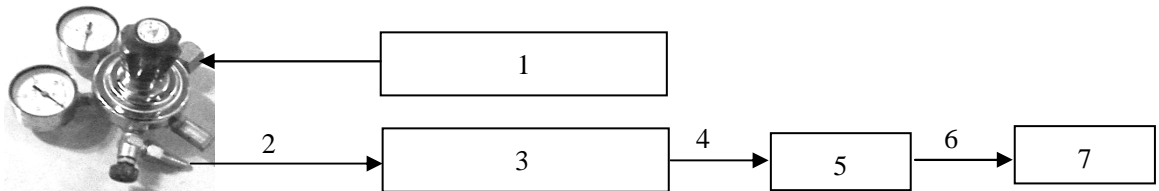

Fig.3-4
c) For ash test with ASTM standard by oxygen supplying, the installation flow chart of gas supply system of combustion furnace is shown in Fig.3-4: